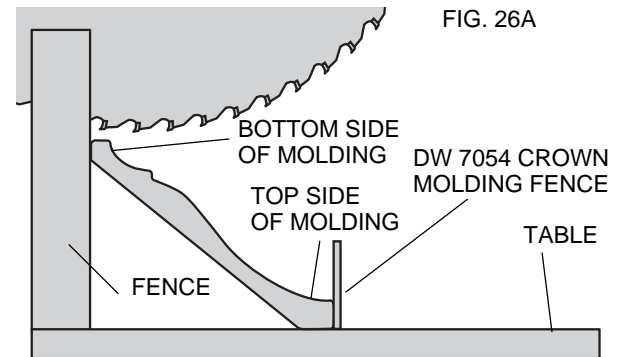

FIG. 26A
Place the molding on the table at an angle between the fence and the saw table, as shown in Figure 26A. Use of the crown molding fence accessory (DW7054) is highly recommended because of its degree of accuracy and convenience. The crown molding fence accessory is available at extra cost from your local dealer.
1. Angle the molding so the bottom of the molding (part which goes against the wall when installed) is against the fence and the top of the molding is resting on the base of the saw, as shown in Figure 26A.